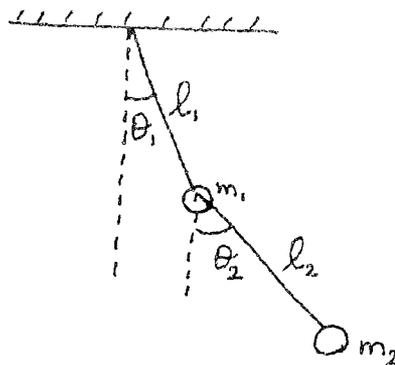

Fig. Q. 12. (a)
12. (a) Determine the natural frequency of oscillation of the double pendulum as shown in Fig. Q. 12. (a) for the following data $m_1 = m_2 = 5 \text{ kg}$, $l_1 = l_2 = 250 \text{ mm}$.